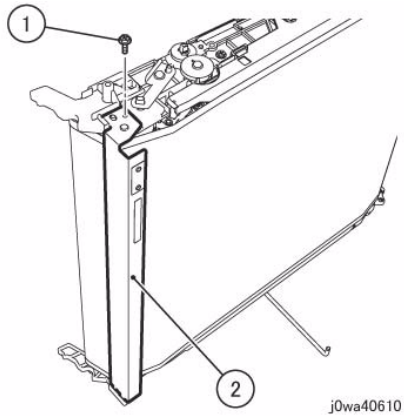

Figure 3 Remove the Inlet Chute
8. Remove the Inlet Chute. (Figure 3)